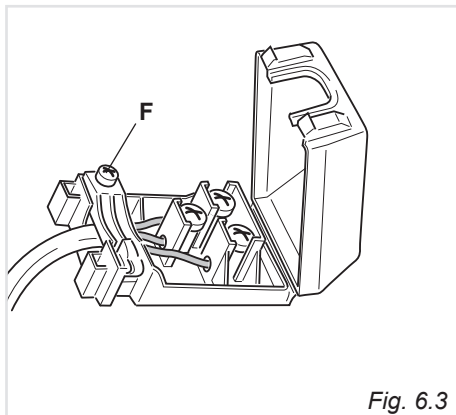

Fig. 6.3
- Open the cable gland by unscrewing screw “F” (fig. 6.3), unscrew the terminal screws and remove the cable.